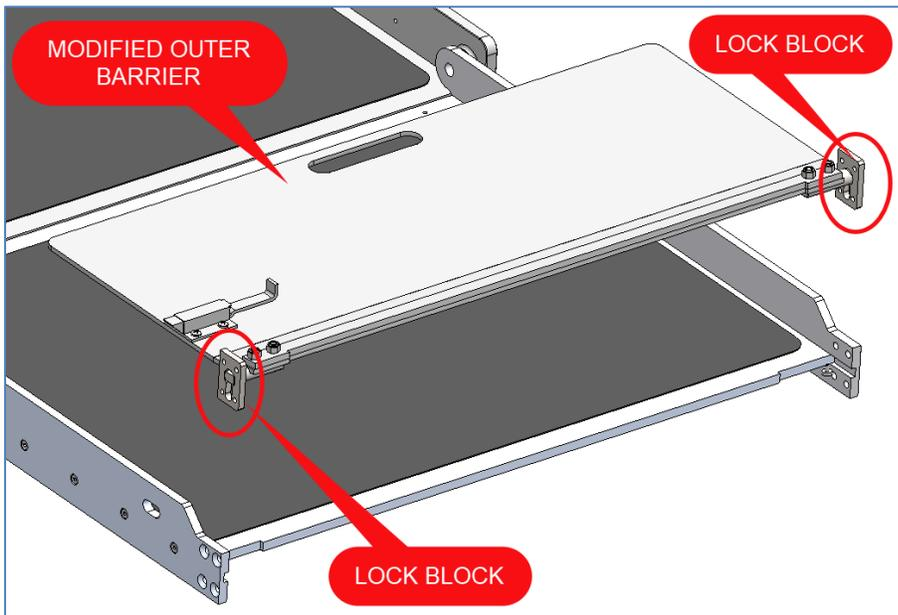
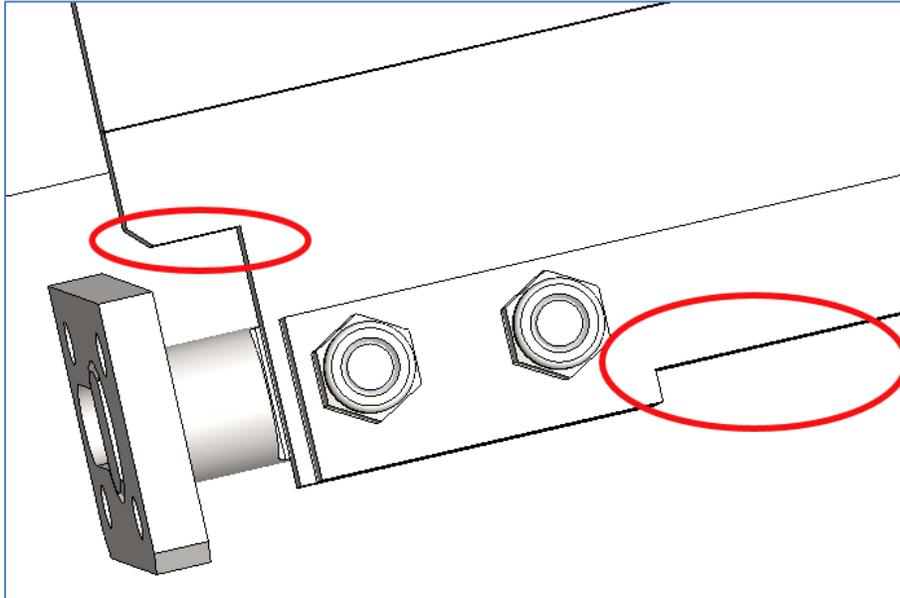

Figure 7
Figure 8
- 6) Use the modified outer barrier assembly RI67298 and attach the LOCK BLOCKS to the pivot pins. See Figure 7. Note that the modified outer barrier assembly has a wider clearance cut out near the pivot pint and a long notch cut out along the width. See Figure 8.